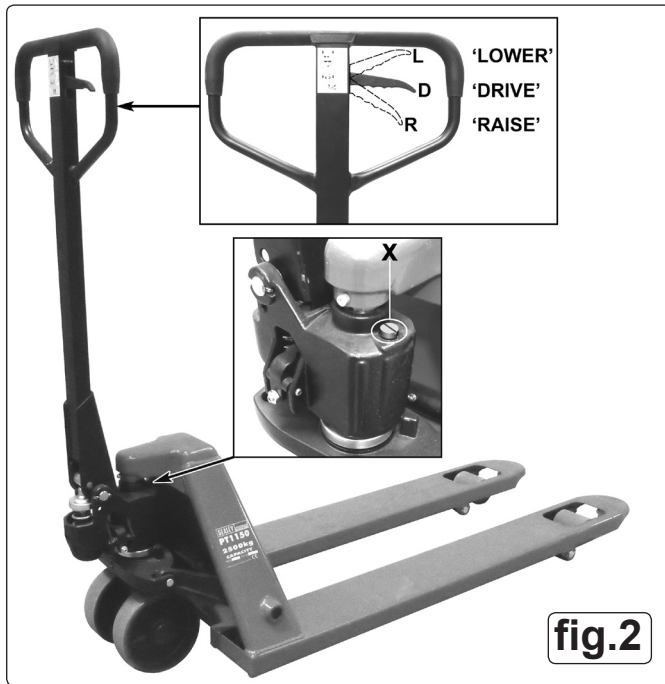

fig.2
- 4.1 The control lever (see fig.2) has three positions as follows:-
- 5.5 **Lowering the truck. (See fig.2 - L)** Before inserting the truck into the pallet ensure that the truck forks are in their lowest position by pulling the operating lever into the upper position and holding it there until the truck has settled down to the lowest level.
- 5.6 **Drive position. (See fig.2 - D)** The lever can now be released and will return to the middle drive position.
- 5.8 **Raising a load. (See fig.2 - R)** To lift the load push the operating lever to its lowest position where it will latch. Pump the handle up and down to lift the load from the floor. When the forks reach their maximum height the lifting action will stop even if you continue to pump the handle.
- 6.1 The oil level should be checked every six months. The system contains 0.4lt of hydraulic oil which should conform to ISO VG32. The viscosity should be 32cSt at 40°C . (See oil level / filler screw 'X' in fig.2) Sealey hydraulic oil is ideal.